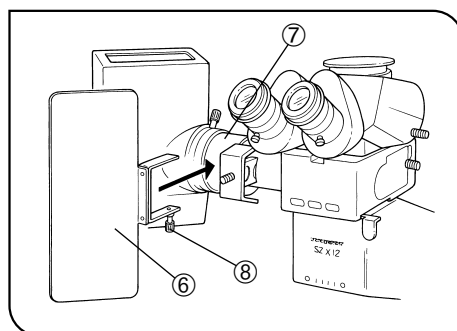

Fig. 19
- ⊙ To cut off radiation heat from the lamp housing, fit the optional SZX-HPS protective shield ⑥ onto the illuminator tube ⑦, then tighten the clamping knob ⑧ to fix the protective shield. (Fig. 19)
1. Set the mirror unit switch knob ① to the desired fluorescence observation position.
2. Set the shutter slider ② to the empty or ND filter position.
- ⊙ Adjust the illuminated field by turning the collector lens focusing knob ③ on the lamp housing as required. Decreasing the illuminated field increases the brightness.
- ⊙ To discontinue observation, set the shutter slider ② to the pulled-out (light-excluding) position.